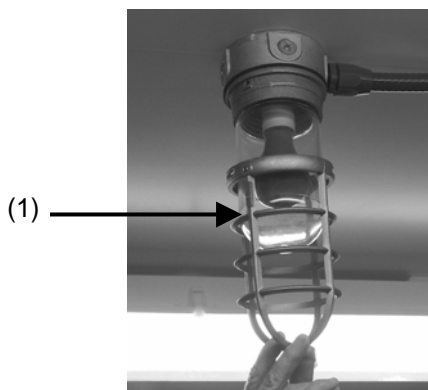

Figure 4-38. Blackout light guard removal.
1. Loosen set screws and remove guard (1) (Fig. 4-38).